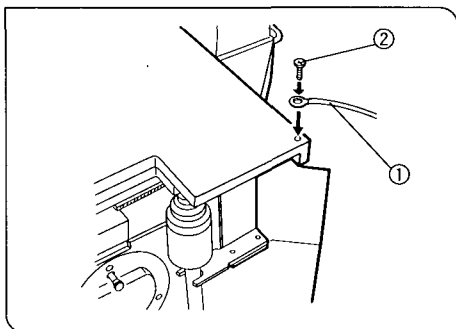

Fig. 64
(Fig. 64)
Prepare a grounding wire ① and one M4 screw ②, and attach the wire as shown in Fig. 64.